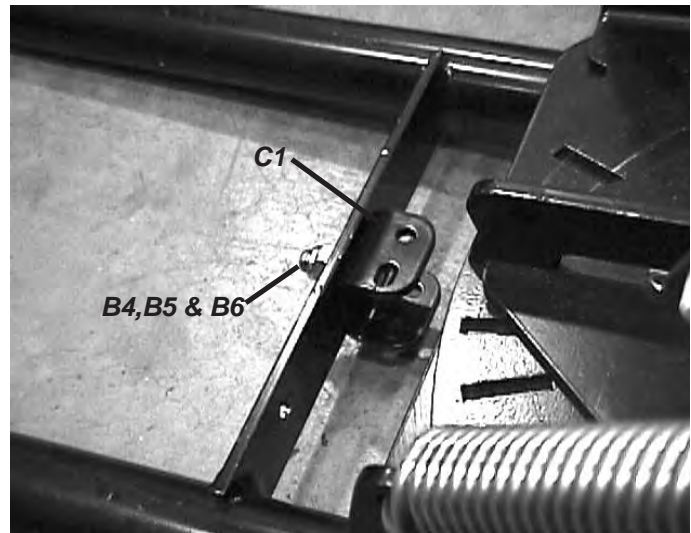

Figure 4 - J-Bolt Bracket
4. Attach the J-bolt bracket (C1) to the plow cross-member using the supplied 3/8-16 X 1 hex bolt (B4), 3/8 flat washer (B5) and 3/8-16 lock nut (B6) as shown in figure 4. The bracket should be installed in the plow blade side of the cross-member. Attach the 3/8 bolt (B4) such that the head of the bolt is inside the bracket and the threaded end points towards the ATV.